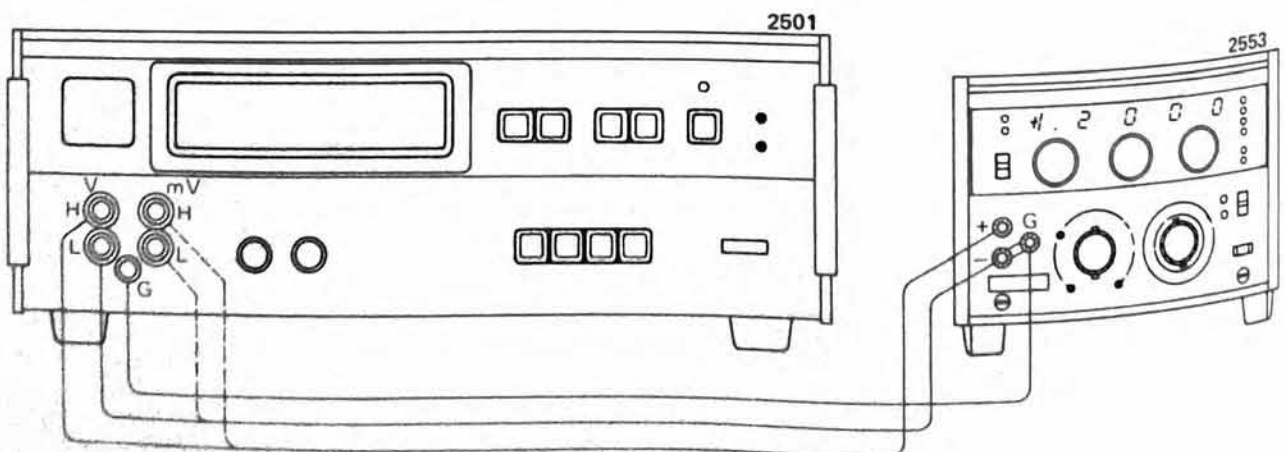

Figure 2-2. Setup for Voltage Output Accuracy Inspection.
- a) Connect this instrument and Type 2501 as shown in Figure 2-2, and set the range and output of this instrument to 1 V.
- a) Connect this instrument and Type 2501 as shown in Figure 2-2, and set the range and output of this instrument to 10 V and 12 V, respectively.